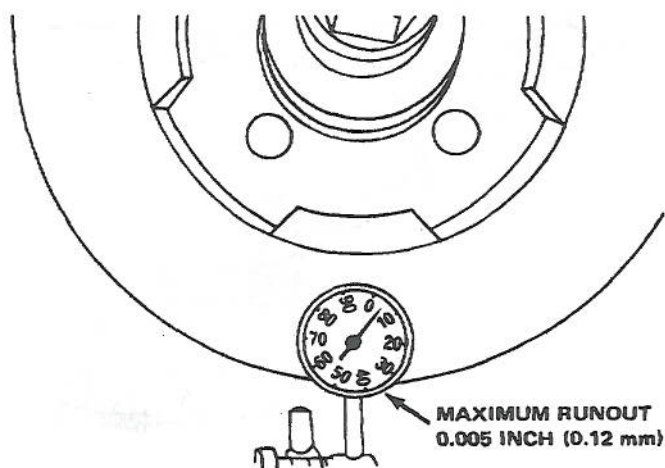

Figure 5-142. Checking Lateral Runout
- (3) Inspect disc for rust or scoring. If rust or scoring is present, disc must be cleaned with flat sanding discs while turning on lathe.
- (4) Check rotor thickness at center of lining contact area. If thickness is below figure prescribed by table 6-1 rotor must be replaced.
- (5) Measure disc lateral runout (figure 5-142) as follows in steps (6) through (8):
- (6) Mount dial indicator stylus on support stand or steering spindle.
- (7) Position indicator stylus so it contacts center of disc lining contact area and zero indicator.
- (8) Turn disc 360 degrees and note indicator reading. If runout exceeds figure stated in table 6-1, disc must be refinished. If runout exceeds replacement limit as stated in table 6-1, disc must be replaced.